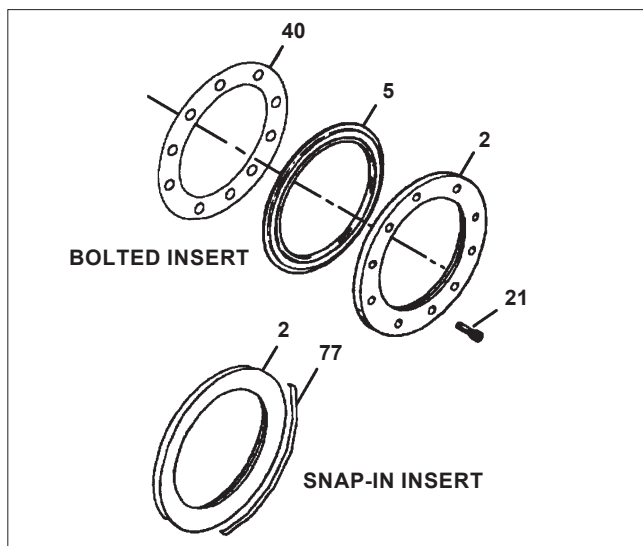

Figure 9.
10. Verify that the disc is in the level position. Install new seat and insert (See Figure 9 & 10). For bolted inserts, install the insert screws, and tighten them uniformly. Torque values are given in (Table 1). Whenever possible, open the valve and retorquing the insert screws per (Table 1). Take care not to damage the sealing edge of the disc. Close the valve. For snap-in inserts, place the retaining spring into the groove in the body, opposite the positive stop (See Figure 8). The tips of the spring should be toward the insert side of the valve. Lightly tap one end of the spring into the body groove. Be sure the spring is positioned snugly into the groove. Lightly tap the other end of the spring into the groove. Make sure the tips of the spring are embedded into the body groove to prevent spring movement. With the seat assembled into the insert, and the disc slightly open, install the assembly into the body, such that it is angled into the body to engage the retaining spring. Once the retaining spring is engaged, "pop" the opposite side of the insert into the body by lightly tapping the insert with a block of wood and a hammer.